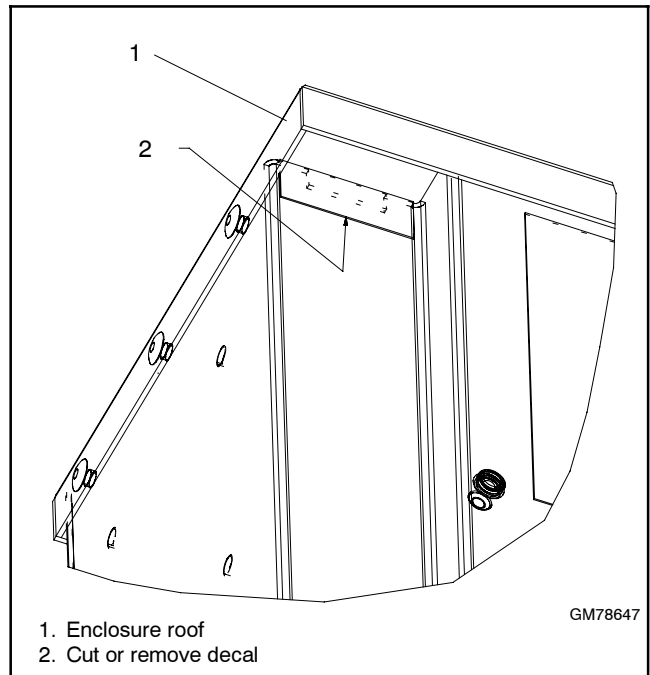

Figure 2 Ribbon Cable Opening Detail
6. Remove or cut the gray decal in the upper left corner of the enclosure to allow the status indicator's ribbon cable to pass through the opening. See Figure 2.